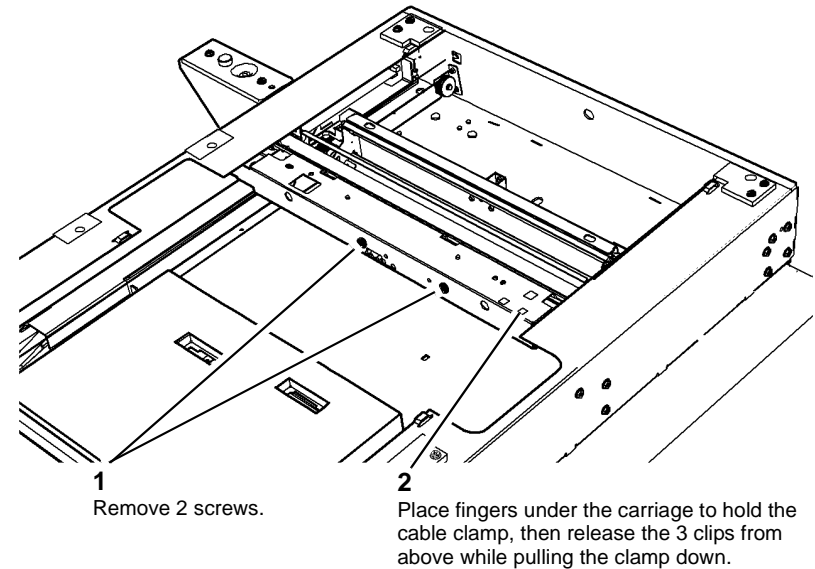

Figure 1 Release the inverter
3. Release the exposure lamp inverter PWB, Figure 1.